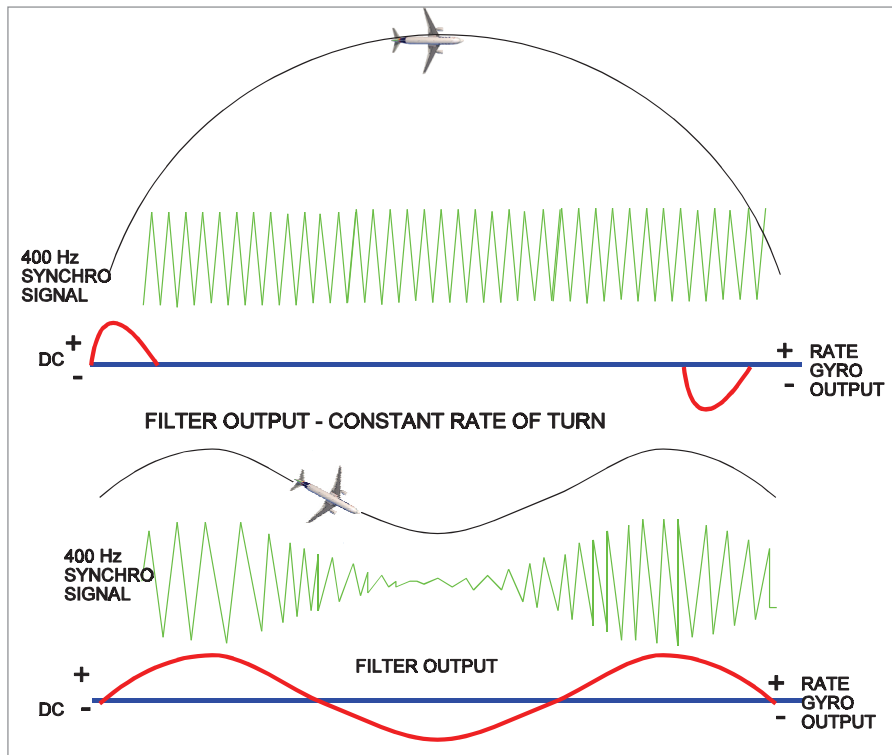

Figure 29.4 Filter output - Dutch Roll
*Figure 29.4* shows an aircraft yawing at the Dutch roll frequency. Since the rate of turn is constantly changing, the output from the rate gyro is constantly changing. The DC graph at the bottom of *Figure 29.4* is the Dutch roll filter output.